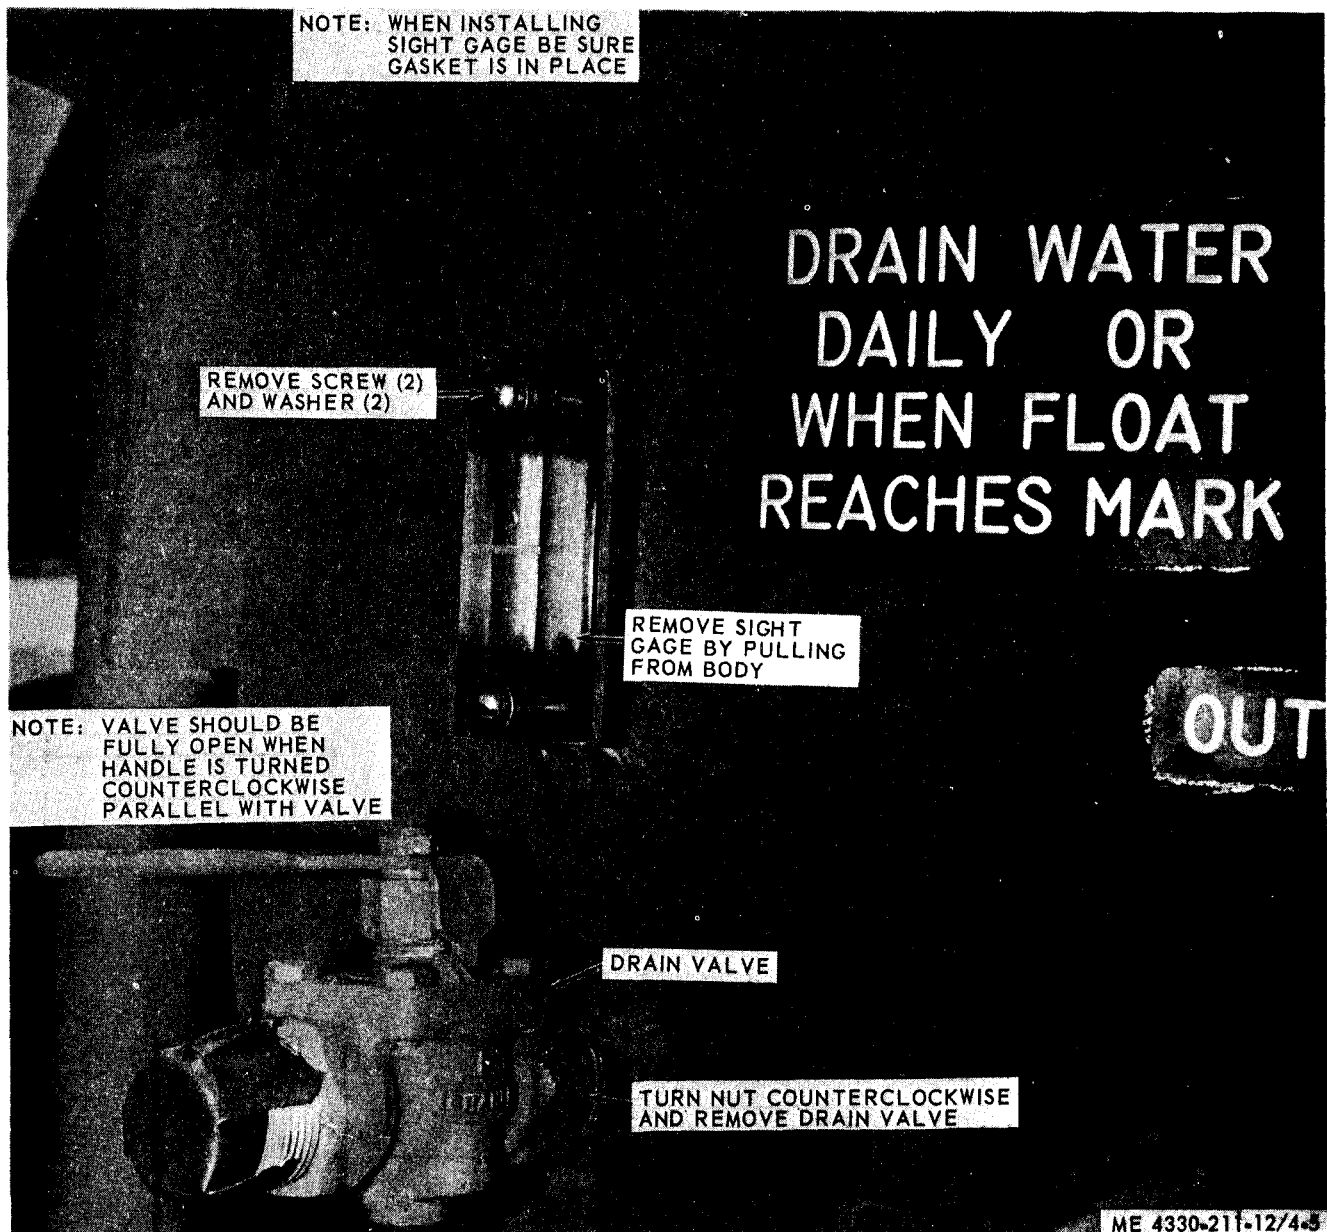

Figure 4-5. Sight gage and water drain valve.
a. *Removal.* Refer to figure 4-5 and remove the sight gage.
d. Refer to figure 4-5 and install sight gage in reverse order of removal.
a. *Removal.* Refer to figure 4-5 and remove the drain valve.
b. *Installation.* Refer to figure 4-5 and install drain valve in reverse order of removal.